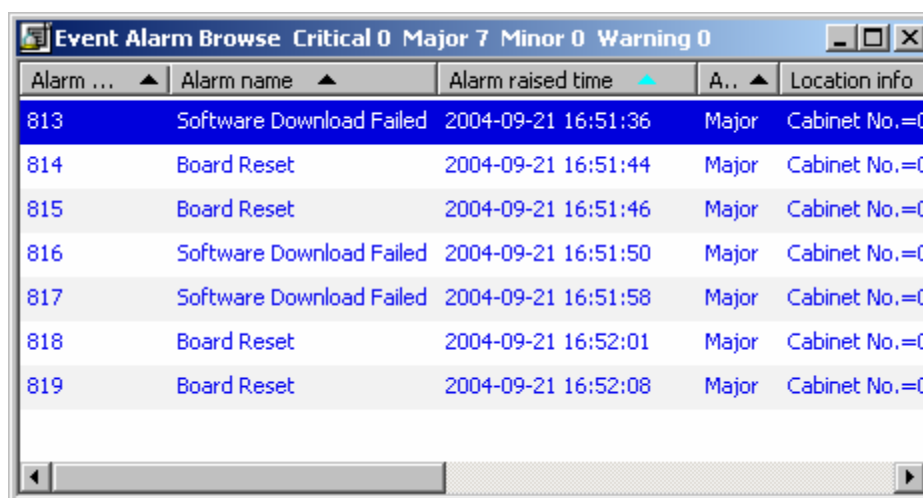

Figure 5-5 Event Alarm Browse window
- 3) Start the NodeB alarm management system. Then the **Event Alarm Browse** window opens up as shown in Figure 5-5. If the **Event Alarm Browse** window is